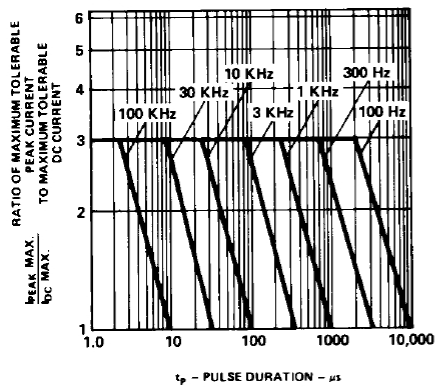

Figure 5. Maximum tolerable peak current vs. pulse duration ( $I_{DC\ MAX}$  as per MAX ratings).
1. See Figure 5 (Red), 10 (Yellow), or 15 (Green) to establish pulsed operating conditions.